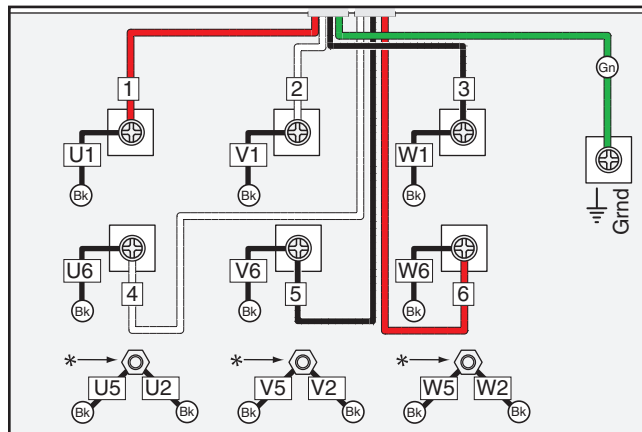

Figure 8. Model G0638 motor rewired for 440V.
6. Open the motor junction box, remove the old motor cords, and rewire the motor terminals for 440V power, as illustrated in **Figure 8**.
7. Install the new motor cords on the motor (see **Figure 8**), and close the motor junction box.